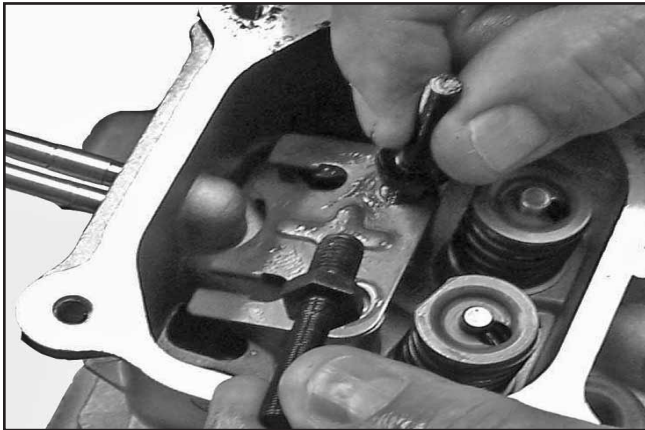

Figure 10-19. Installing Guide Plate and Studs.
1. Install the rocker studs through the guide plate. See Figure 10-19.